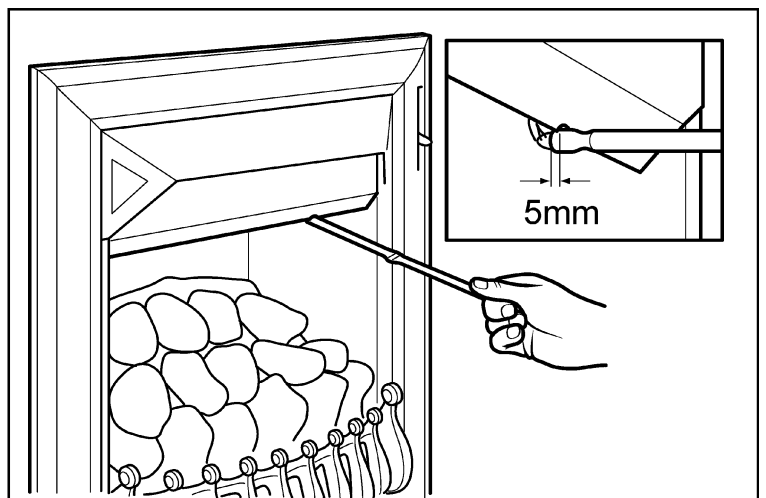

Figure 44. Smoke match tube position (Shown with ‘Visage’ fascia)
4. The smoke match should be placed horizontally into the convection box at the right hand side. There is a notch in the black cross member. Insert the tube so that the neck of its flared end is 5mm passed and in contact the cross member (See figure 44).